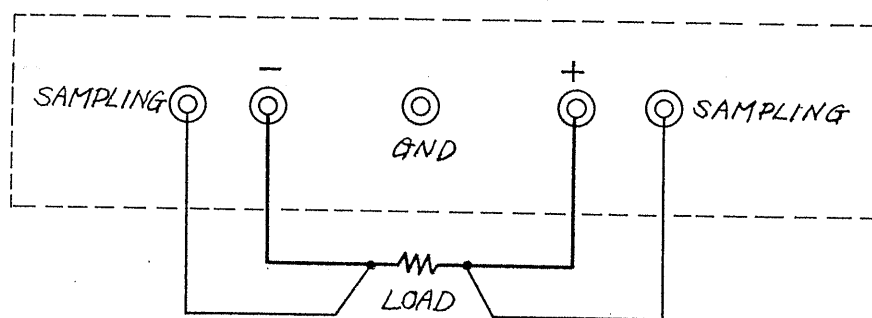

Fig. 2
- ① Output voltmeter (full scale : 70 V)
- ② Output voltage control knob : Clockwise rotation increases voltage, which can be continuously varied in a range of 0 to 70 V.
- ③ Knob for fine adjustment of ② : Capable of varying approximately ± 1 V.
- ④ Output ammeter (full scale : 2.5 A)
- ⑤ Pilot lamp for AC input
- ⑥ 4-ampere slow-blow type fuse : Provided on AC input side.
- ⑦ Power switch : Setting to ON-side turns on power and lights pilot lamp.
- ⑧ Output terminals : Normally Model 7133A is used with positive or negative terminal connected with GND terminal (electrically connected with chassis and panel) by means of accessory short bar. It is also possible to operate the equipment by applying DC bias of ± 150 V maximum.
- ⑨ Sampling terminals : To be used when load current is great and lead wire from output terminal to load becomes long, and resultant voltage drop can not be ignored. Connection is shown in Fig. 2.